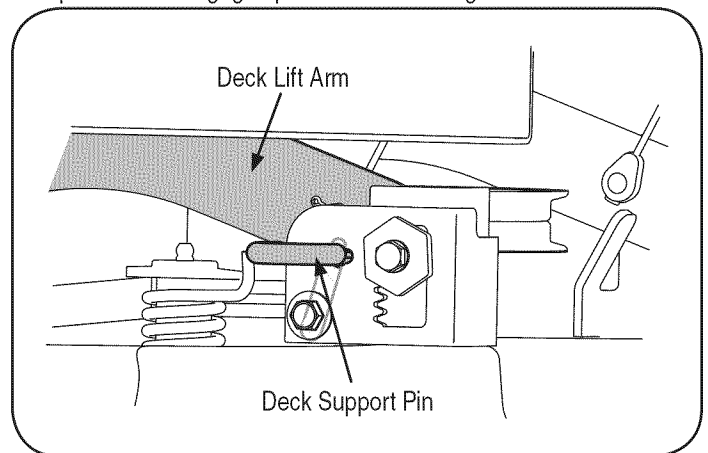

Figure 19
4. Looking at the cutting deck from the left side of the tractor, locate the deck support pin on the rear left side of the deck. Refer to Figure 19.
5. Pull the deck support pin outward to release the deck from the deck lift arm. Pivot the support pin handle downward to lock the pin in the disengaged position. Refer to Figure 19.
- Rotate the RH spindle assembly to position the drive pulley timing arrow as shown in Figure 19. Then without moving the RH drive pulley, pull the timing belt tight against the RH timing pulley, above the timing belt idler pulley, and over to the LH timing pulley.